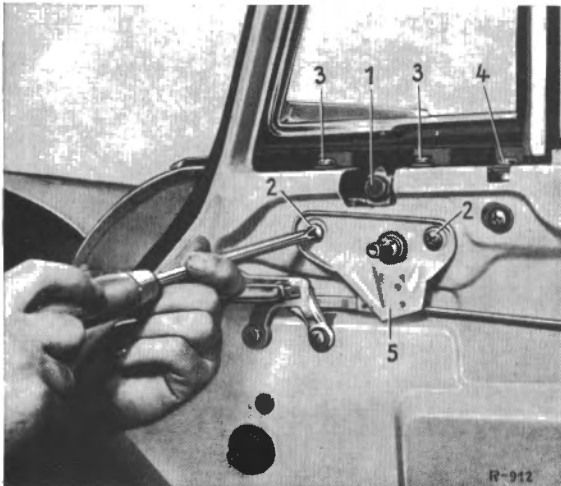

Fig. 72-13/1
5. Unscrew the fixing screws (3) and (4).
6. Unscrew the fixing screws (3) and (4).
7. Unscrew the two top fixing screws (2) (see Fig. 72-13/1) and take out the ventilator together with the ventilator frame (Fig. 72-13/2).